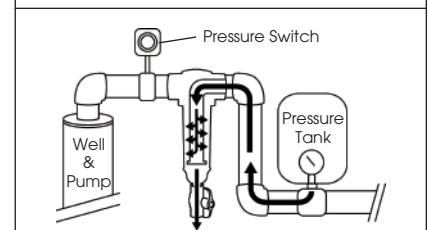

Fig 3. Backflushing.
8. Install the filter on the pressure side of the pump, after the pressure switch, to protect the pump and allow the filter to be cleaned without losing pump prime. (See Fig 3.)